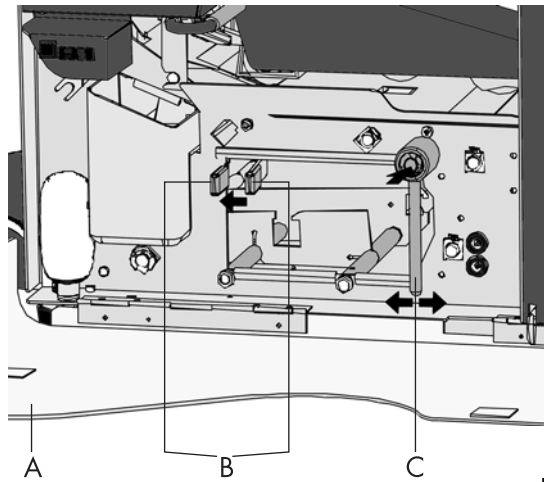

Fig. 55
- open the side cover A (fig. 55).